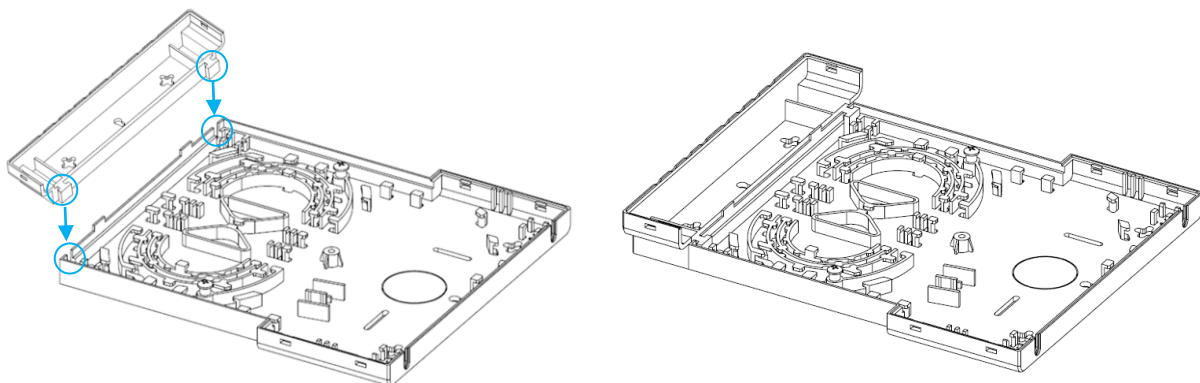

Figure 8. LAN cable protection holder assembly
Step 2. Combine “Cable tray base” and “LAN cable protection holder” together using the snap fit joint as indicated in Figure 8. (If your cable tray kit does not contain “LAN cable protection holder” & “LAN cable protection cover”, proceed to Step 3.)